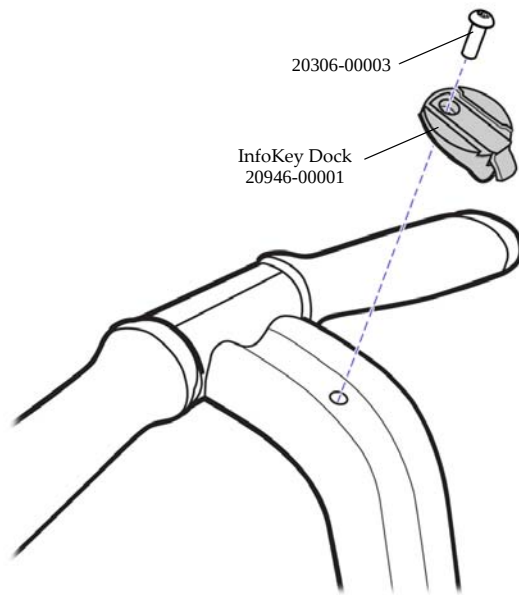

Figure 1-11: Replace Wireless InfoKey Controller Dock
2. Using 3mm hex wrench, remove fastener that holds Wireless InfoKey controller dock to LeanSteer frame. See Figure 1-11.
2. Place Wireless InfoKey controller dock against upper LeanSteer frame with release tab oriented at bottom. See Figure 1-11.